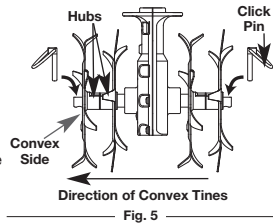

Fig. 5
2. Remove the click pin from each end of the tine shaft. Slide the tines off of the shaft (Fig. 5).
4. Slide on the new tines with the hubs facing each other (Fig. 5).
NOTE: Each tine has a convex side. Make sure that all of the convex sides are facing as shown in Figure 5.